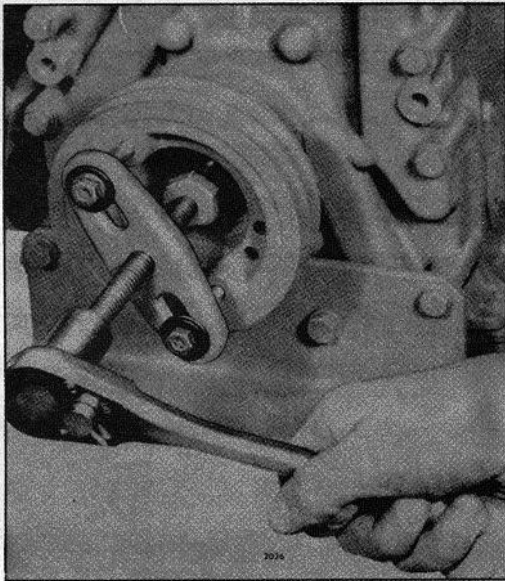

Fig. 1 - Removing Crankshaft Pulley Using Puller J 4794-01
3. If a rigid type pulley is being removed from an In-line engine, install the pulley retaining bolt and puller J 4794-01 as shown in Fig. 1. Then force the pulley off the crankshaft by turning the puller center screw in.